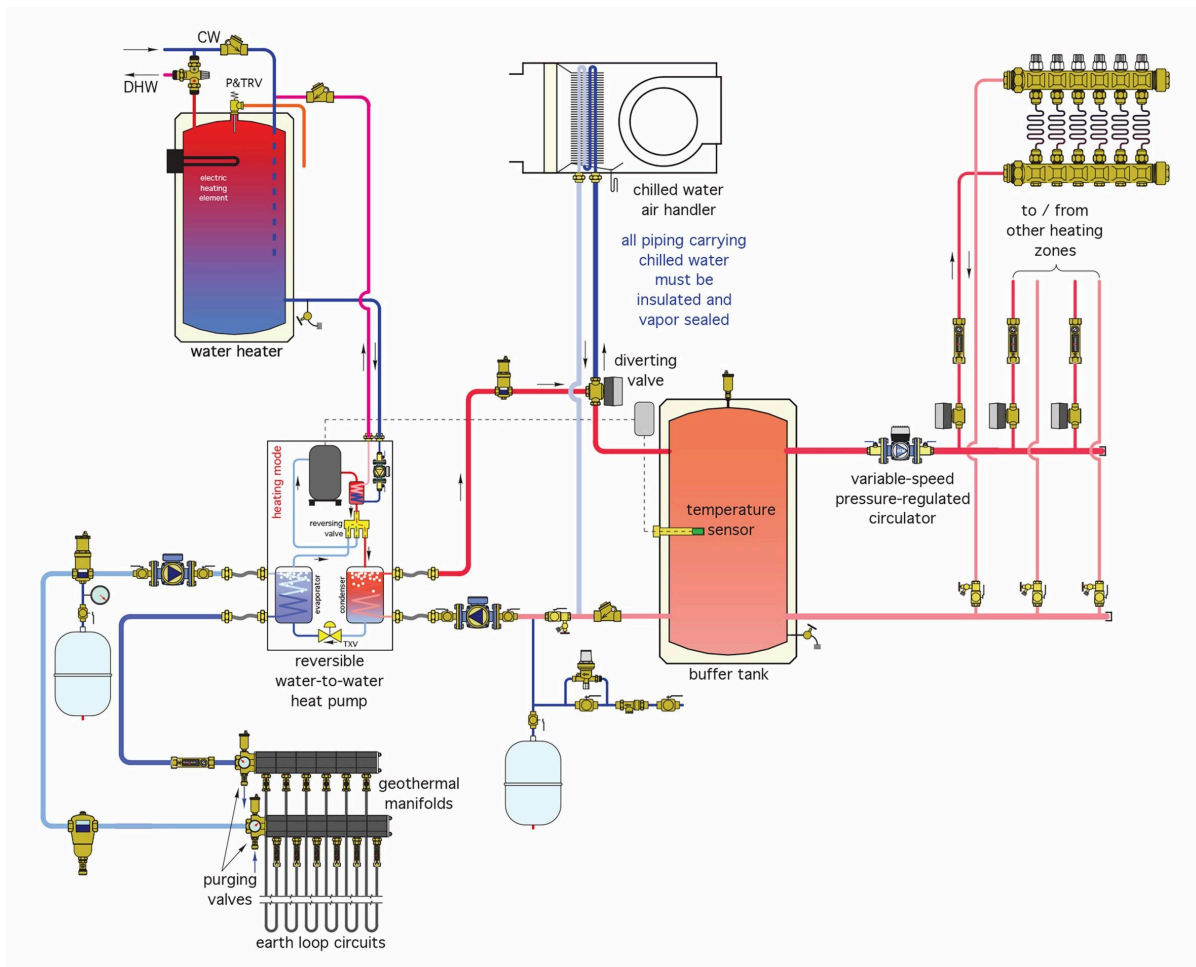

Figure 4 A water-to-water reversible heat pump with domestic hot water generation
- Figure 4 Four pipes in trench © Caleffi Hydronic Solutions. Used with permission.
Figure 4 below is an example of a system that is fairly elaborate, in that it has captured all the aforementioned aspects of the use of reversible water-to-water (geothermal) heat pumps into one system.